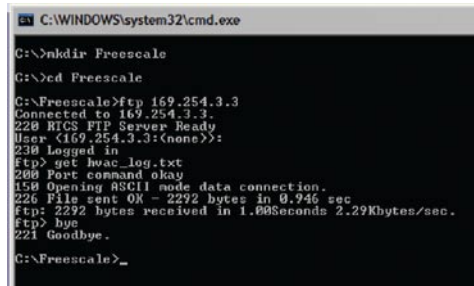

Figure 3: Communicating with FTP
- Open a second command prompt (Start > All Programs > Accessories > Command Prompt) and change the working directory for the prompt to the c:\Freescale folder (type “c:”, “cd \”, “mkdir Freescale” and “cd Freescale” commands). See Figure 3 below for an example.